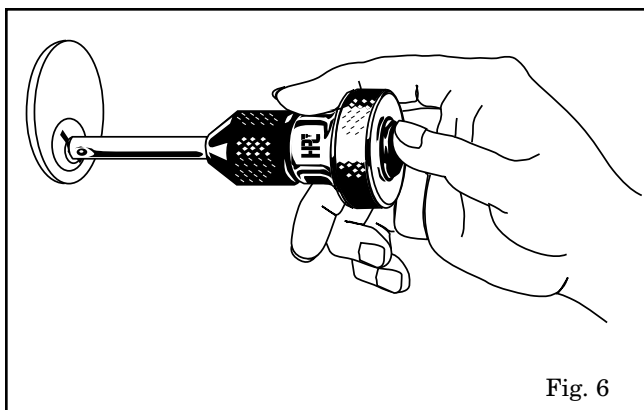
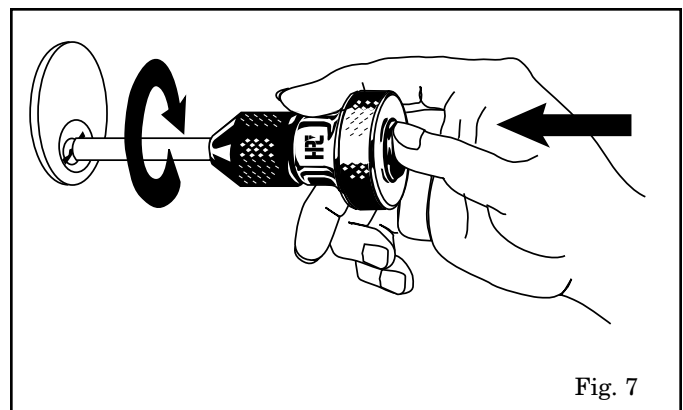

Fig. 6
Fig. 7
3. Holding the Flip-It tool as in Fig. 6, insert the tip of the Flip-It into the keyway of the plug, holding the Flip-It steady and push the black button with your thumb (see Fig. 7).